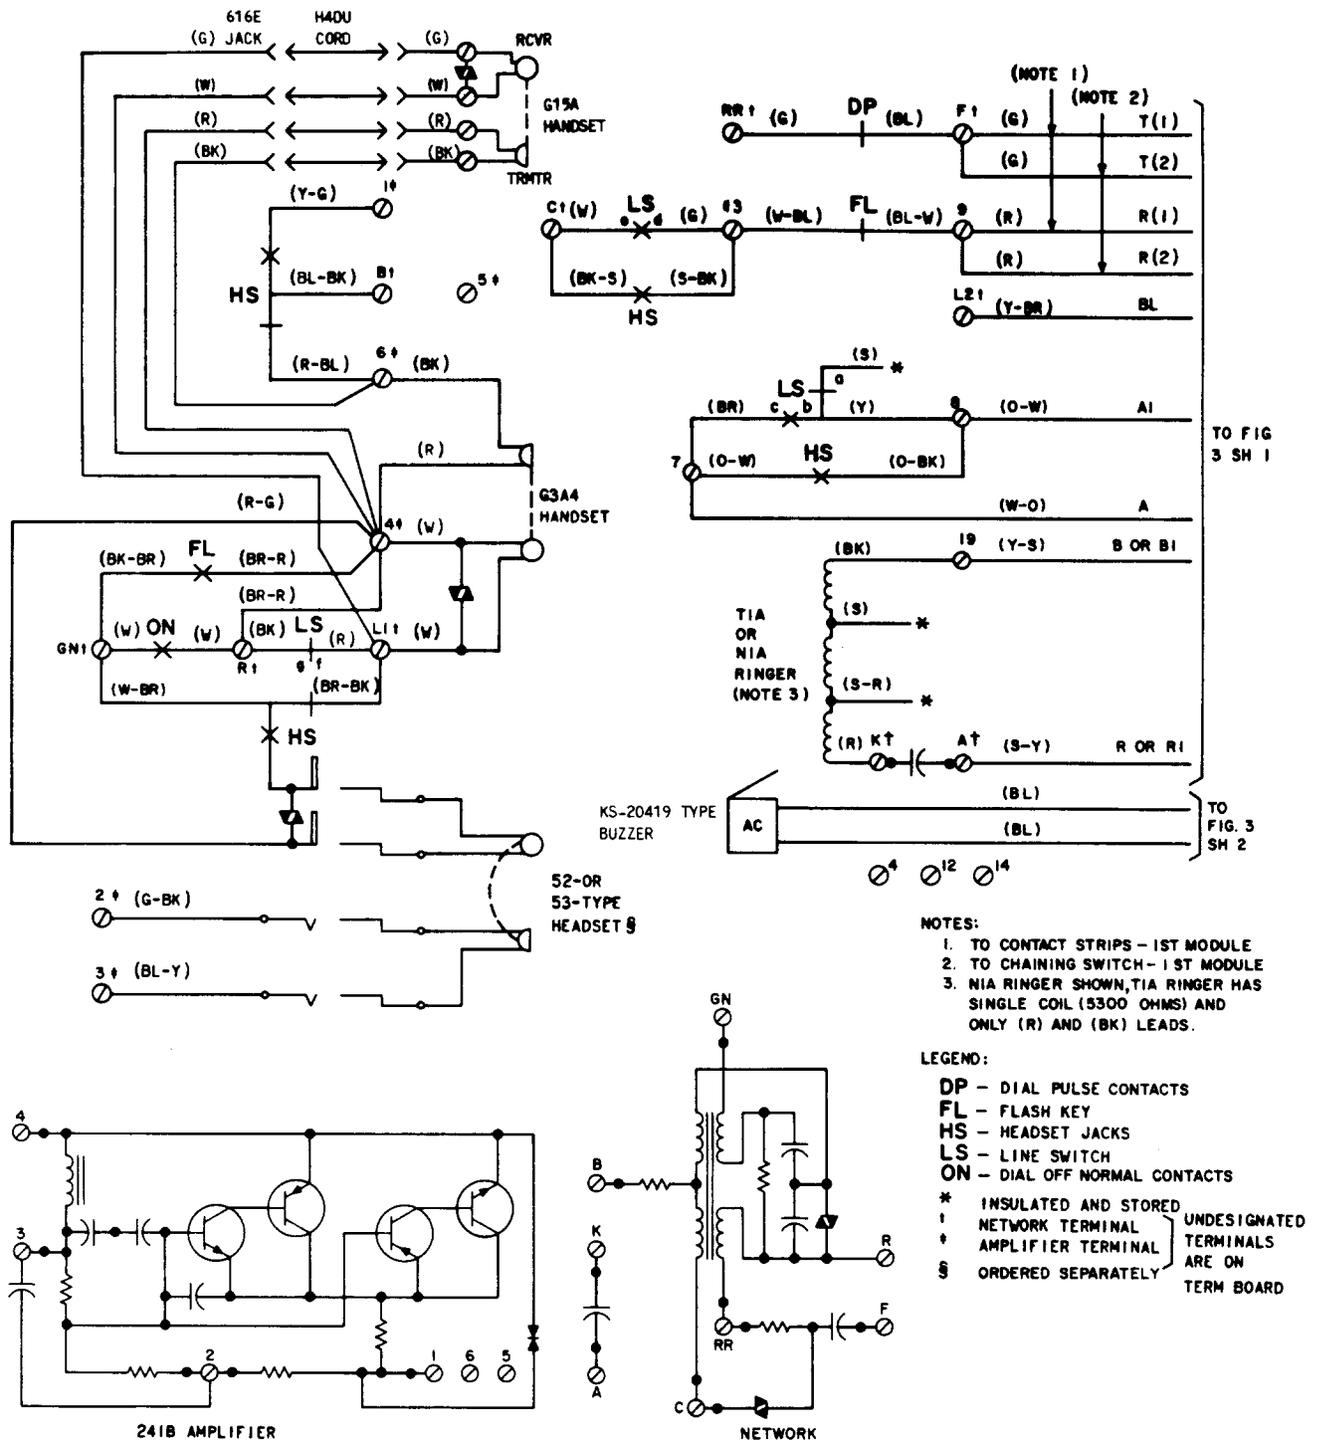

Fig. 1—636CA (MD), CAM (MD) and 637DA (MD), DAM (MD) Telephone Set, Connections
1.01 This section contains information for the 636CA manufacture discontinued (MD), 636CAM (MD), 636CAMS (18-button) and 637DA (MD), 637DAM (MD), 637DAMS (30-button) CALL DIRECTOR® telephone sets (Fig. 1, 2, and 3) equipped with rotary dials and headset jacks.